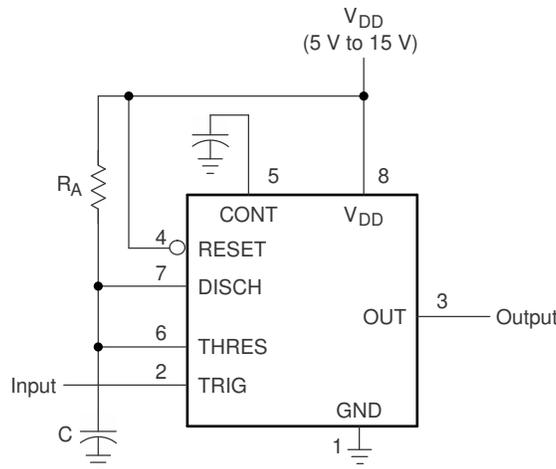
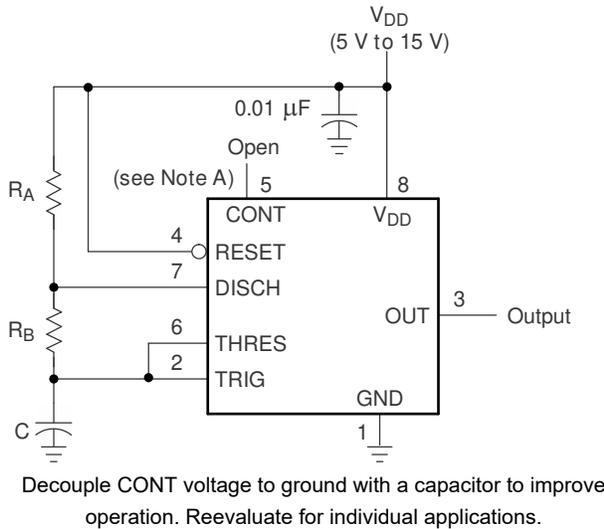

Figure 6-2. Circuit for Monostable Operation
Figure 6-5. Circuit for Astable Operation
(1) $R_A, R_B,$ and C_T are as defined in Figure 6-5.
For monostable operation, Figure 6-2 shows how any of these timers can be connected. If the output is low, application of a negative-going pulse to the trigger (TRIG) sets the internal latch; the output goes high, and discharge pin (DISCH) becomes open drain. Capacitor C then is charged through R_A until the voltage across the capacitor reaches the threshold voltage of the threshold (THRES) input. If TRIG has returned to a high level, the output of the threshold comparator resets the internal latch, the output goes low, the discharge pin goes low, which quickly discharges capacitor C.
As shown in Figure 6-5, adding a second resistor, R_B , to the circuit of Figure 6-2 and connecting the trigger input to the threshold input causes the timer to self-trigger and run as a multivibrator. The capacitor C charges through R_A and R_B and then discharges through R_B only. Therefore, the duty cycle is controlled by the values of R_A and R_B .
By adjusting the length of the timing cycle, the basic circuit of Figure 6-2 can be made to operate as a frequency divider. Figure 6-9 shows a divide-by-three circuit that makes use of the fact that retriggering cannot occur during the timing cycle.
See Figure 6-2